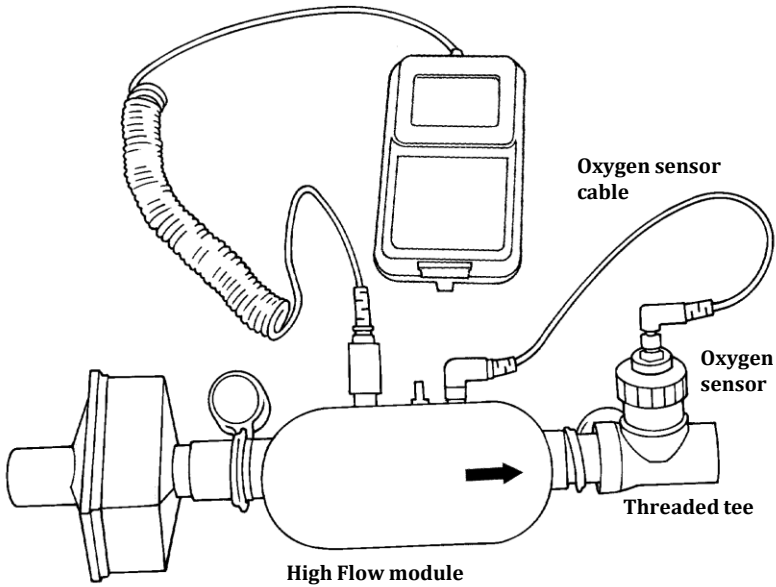

Figure 6. Attaching the Oxygen Sensor to the High Flow Module
4. High Flow module only: install the oxygen sensor (optional, Figure 6).